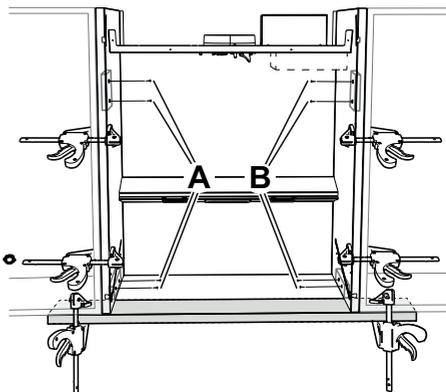

Fig. 9
**TIP!** Clamps and a board can be used to facilitate installation, see Fig. 9.